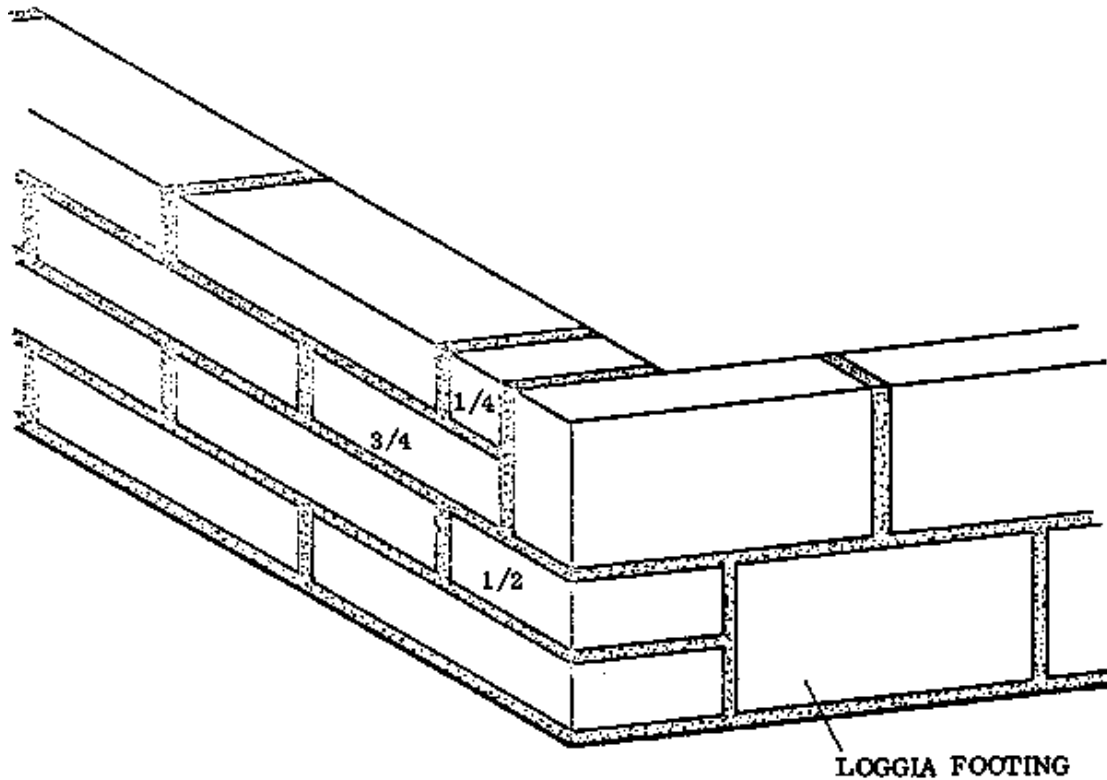

Fig. 3
- SPECIALLY MADE BLOCKS, FLUSH TO OUTSIDE: If specially made blocks are used, it is not necessary to cut them to odd shapes, and the bond is easy to make as well as more economical (Fig. 3).